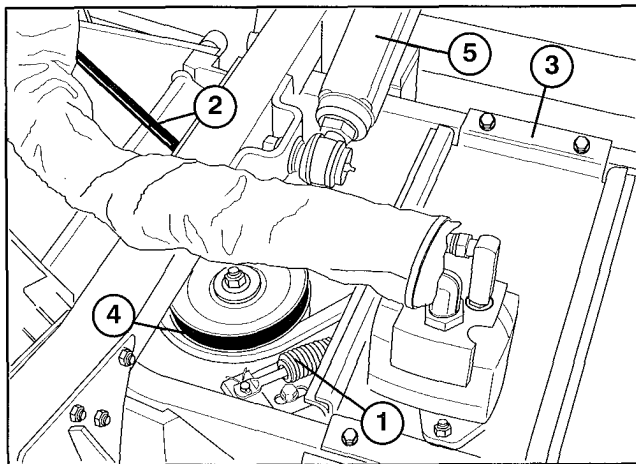

Figure 63
Note: When the shoulder bolt flanges are positioned 1/8 in. (3 mm) from the pulley end of the slots, the length of the compression spring (Fig. 63) will be approximately 5 in. (127 mm).
4. Remove flange head screws securing gearbox plate and separate plate and drive motor assembly from the deck (Fig. 63). Be careful not to bend, twist, kink or damage flexible hydraulic lines.
3. Remove flange head screws securing gearbox plate and separate plate and drive motor assembly from the deck (Fig. 63). Be careful not to bend, twist, kink or damage flexible hydraulic lines.
4. Remove hex head screws and flange locknuts securing each lift arm to the castor arm and separate from the arm (Fig. 63).